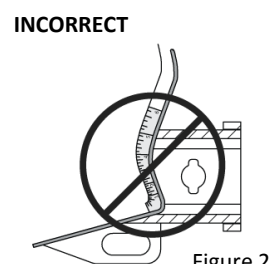

Figure 2
- Do not measure from visible bumper front of corner, upwards (Figure 2).
Insert Smart Pin (e) through hole in hitchbox and hole in TBM shank (g); ensure the locators are inserted into the notches in the hitchbox (Fig. 2)